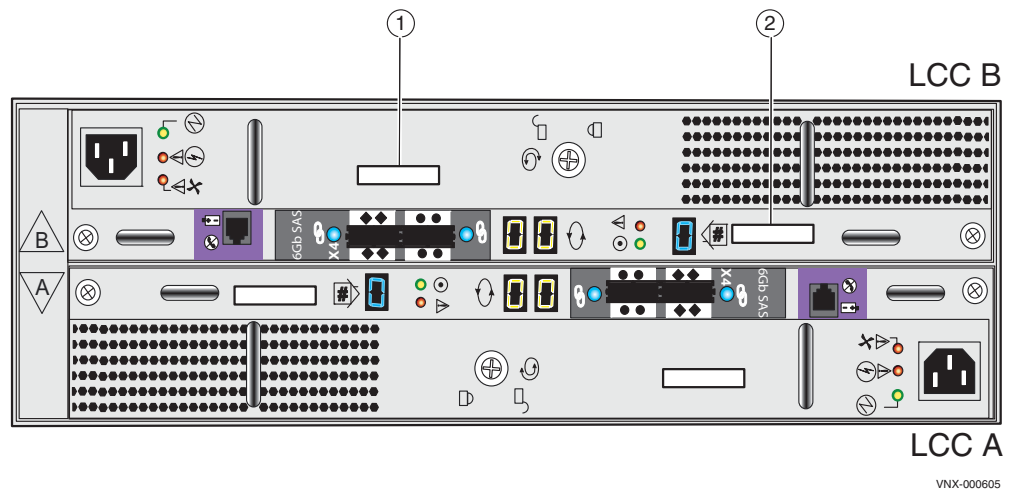

Figure 46 Example of 3U, 15 (3.5-inch) LCC and power supply
Figure 46 shows the part number label location on the rear of the 3U, 15 (3.5-inch) DAE for the LCC and power supply.
1. The rear of the 3U, 15 (3.5-inch) DAE has the LCC power supply and LCC inverted or on top of each other. In other words, LCC B power supply is located on the top of LCC B. While LCC A is located on the bottom of the DAE with LCC A on top of the LCC A power supply (Figure 46).